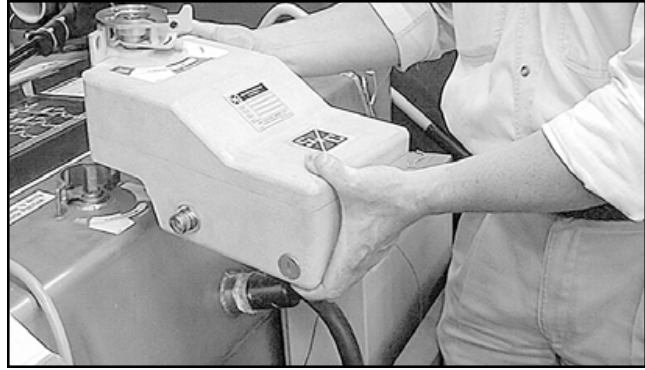

Figure 68. Placing the motor operator over the operating shaft on the gear.
- STEP 1.** Place each motor operator over the operating shaft on the gear. See Figure 68.